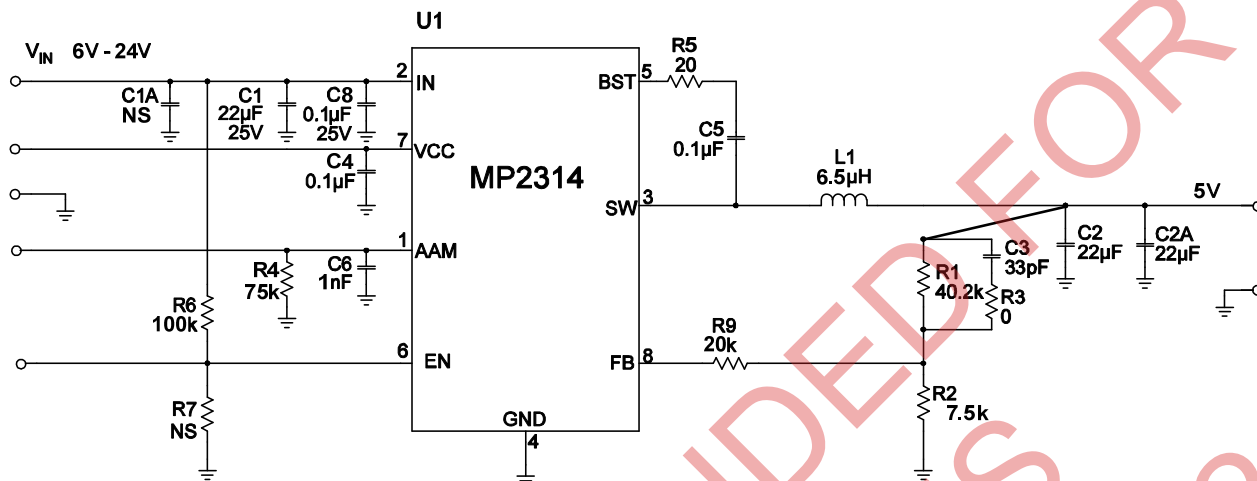

Figure 9: $V_o=5V$, $I_o=2A$
- 7) The recommended layout is based on the Figure 9 Typical Application circuit on the next page.
The detailed application schematics are shown in Figures 9 through 14. The typical performance and circuit waveforms have been shown in the Typical Performance Characteristics section. For more device applications, please refer to the related Evaluation Board Datasheets.